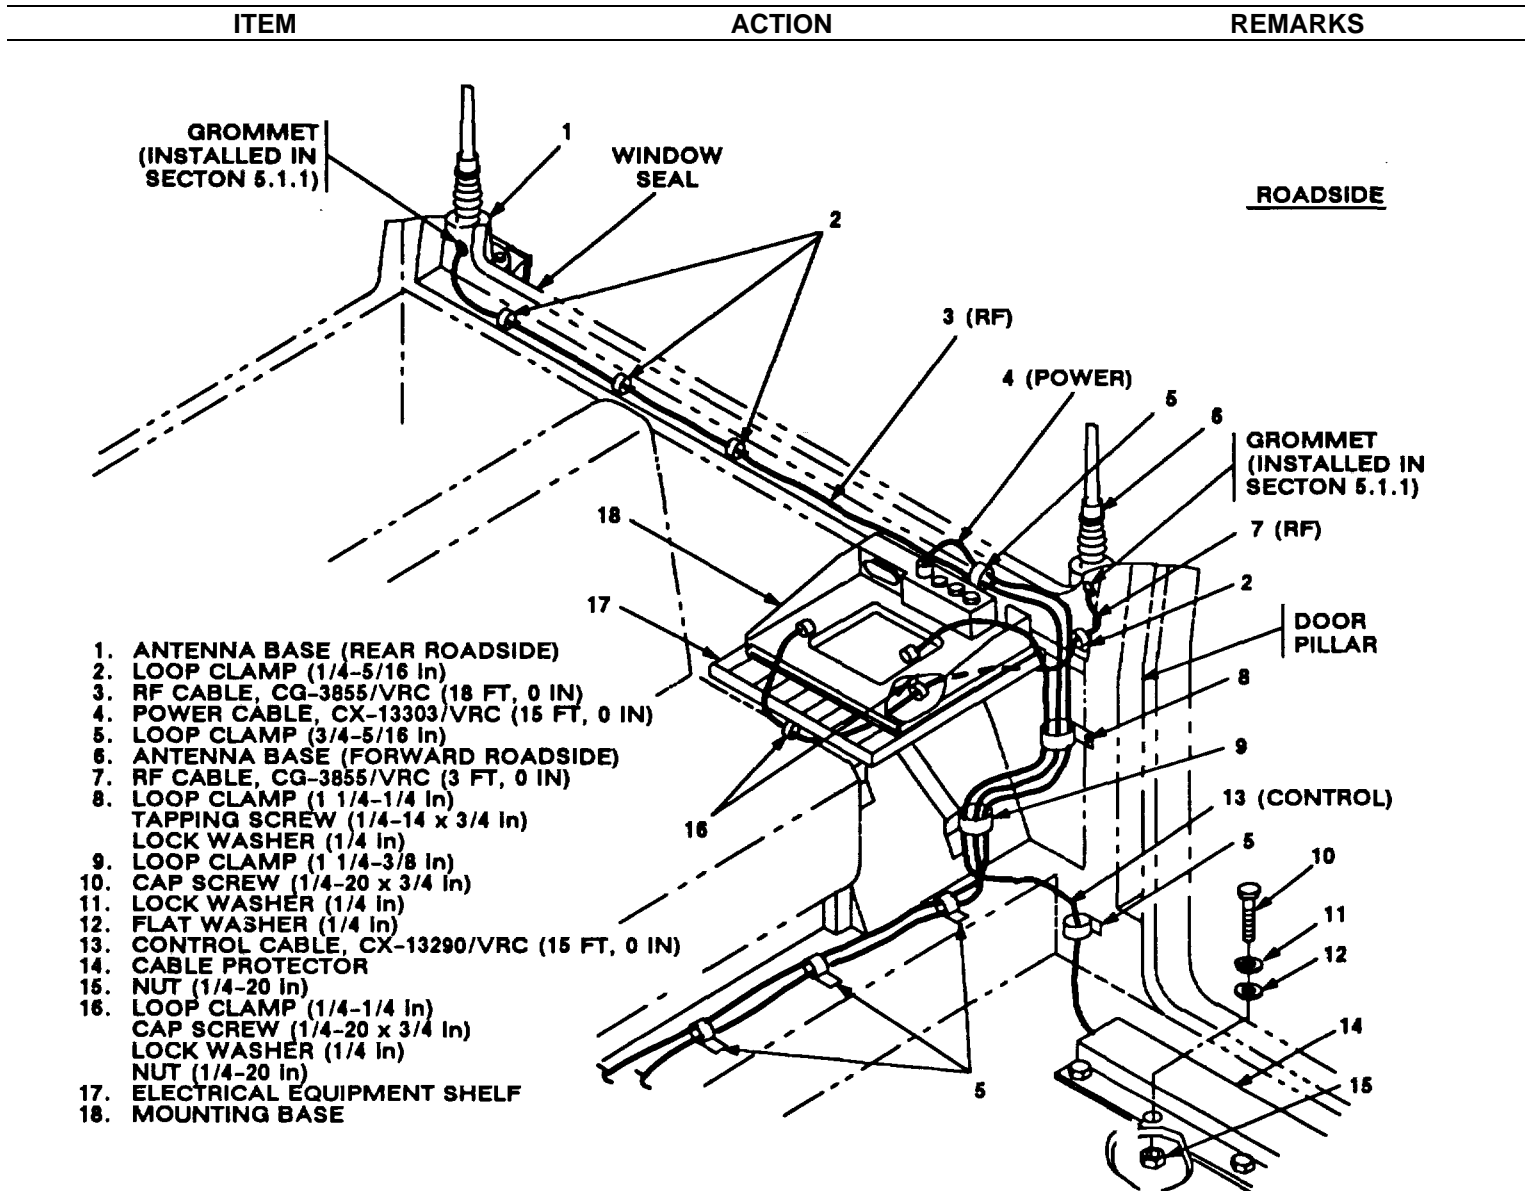

Figure 5-8(2). Cable Installation: Rear Roadside Passenger Area
t. Control cable (13) connector P2.	Position on top of mounting base (18).
u. Mounting holes for cable protector (14).	Place cable protector over control cable (13); then drill ten 9/32 in diameter holes through floorboard of roadside doorway using cable protector as a template.	Tools: Electric drill and 9/32 in drill bit.
v. Ten cap screws (10), ten lock washers (11), ten flat washers (12) and ten nuts (15).	Install and secure to cable protector (14) and floorboard.	Tools: 7/16 in socket and 7/16 in open/box wrench.
w. Loop clamp (5) and existing mounting hardware.	Wrap clamp around control cable (13); then install to existing hole near rear edge of roadside doorway. See figure 5-8 (2) for location(s).
x. RF cable (3) connector P1, figure 5-8 (2).	Insert through grommet (10) and loop clamp (6), figure 5-2 (4); then connect and secure to antenna base (1) connector J1.
y. RF cable (3).	Route along window seal and rear wheelwell to roadside doorway. See figure 5-8 (2).
z. Three loop clamps (2) and existing mounting hardware.	Wrap clamps around RF cable (3); then install to existing holes below window seal. See figure 5-8 (2) for location(s).
- aa. Power cable (4) connector P2. Connect and secure to mounting base (18) connector J1. See figure 5-8 (2).
- ab. RF cable (3) and power cable (4). Route below electrical equipment shelf (17) and across rear floorboard (below rear passenger seat).
- ac. Loop clamp (5) and existing mounting hardware. Wrap clamp around RF cable (3) and power cable (4); then install to existing hole in forward edge of window frame. See figure 5-8 (2) for location(s).